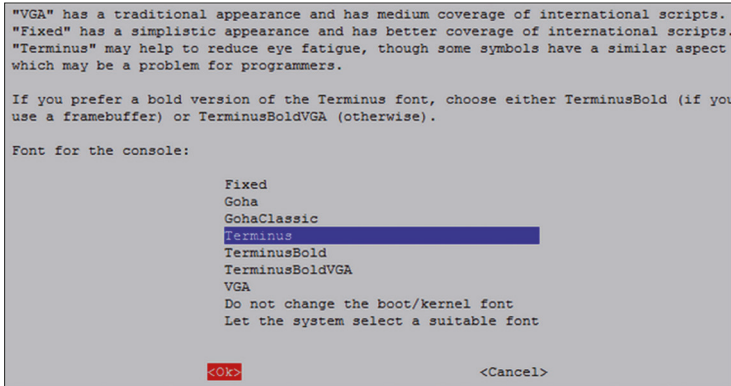

Figure 1.6: Select Terminus.
- Select **Terminus** (Figure 1.6)